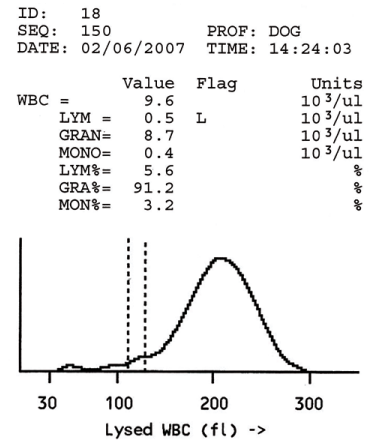

Figure 5.2
- The histogram and data in Figure 5.2 are representative of a typical steroid response.
Examples are shown in Figures 5.2 and 5.3 in WBC Differential Distribution Abnormalities. This is due to the most common pathologic leukocyte responses, steroid and/or inflammatory. When the granulocyte population has a mode of >190 fl, the differential analysis is highly reliable. Normal lymphocytes will not move into the granulocyte region. On rare occasions, blast cells in a leukemia may occur in the granulocyte region because they are highly unpredictable in all analytical analyzers.